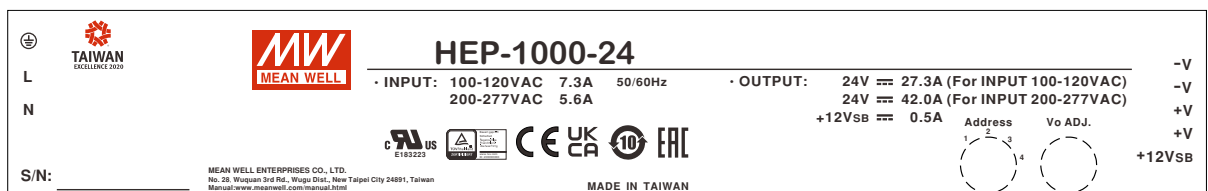

Figure 1-1 Safety label of UHP-1000
- ⊙Please refer to the safety label sticker on the top of the unit before use, shown as Figure 1-1.